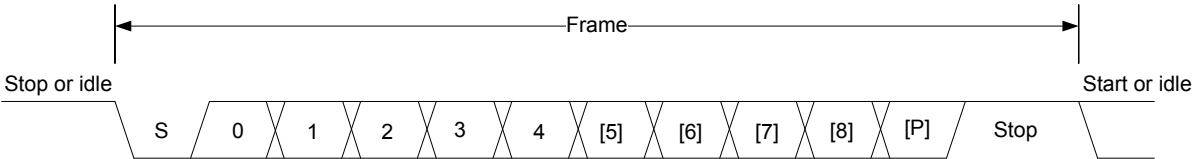

Figure 19.2. USART Asynchronous Frame Format
The frame format used in asynchronous mode consists of a set of data bits in addition to bits for synchronization and optionally a parity bit for error checking. A frame starts with one start-bit (S), where the line is driven low for one bit-period. This signals the start of a frame, and is used for synchronization. Following the start bit are 4 to 16 data bits and an optional parity bit. Finally, a number of stop-bits, where the line is driven high, end the frame. An example frame is shown in Figure 19.2 USART Asynchronous Frame Format on page 565.